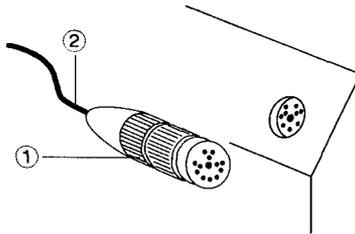

Figure 2. Removing the camera module.
Step 1: Carefully unscrew the locking ring on the module cable connector and pull it straight out. Do not pull on the cable because this can damage it. See Figure 2.